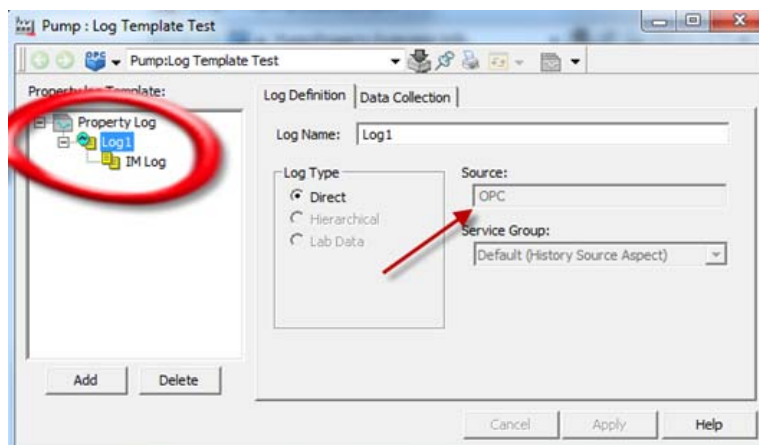

Figure 326. Property Log Window
3. For IM storage, it is important that the source (direct) log for the IM log is of type OPC as shown in Figure 326.